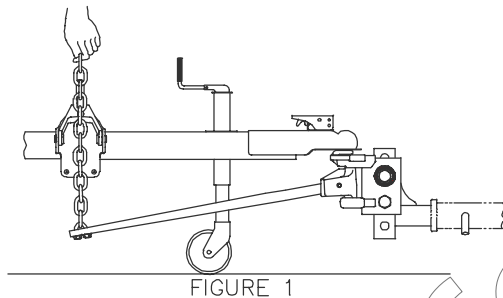

FIGURE 1
2. Rotate spring bars parallel to trailer frame. Hold chain vertical. Center lift units with chain [See figure 1].